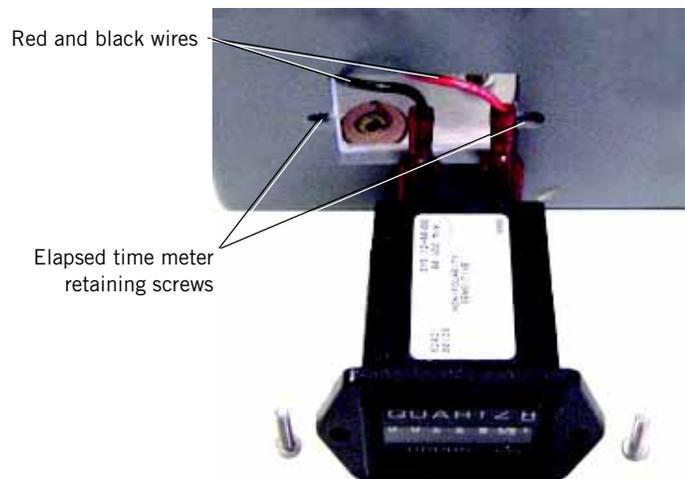

Figure 10-30: Elapsed Time Meter
3. Using a 2-mm hex wrench, remove the two screws that hold the elapsed time meter to the bottom enclosure (Figure 10-30). Slowly pull the time meter from the enclosure to expose the attached wires.